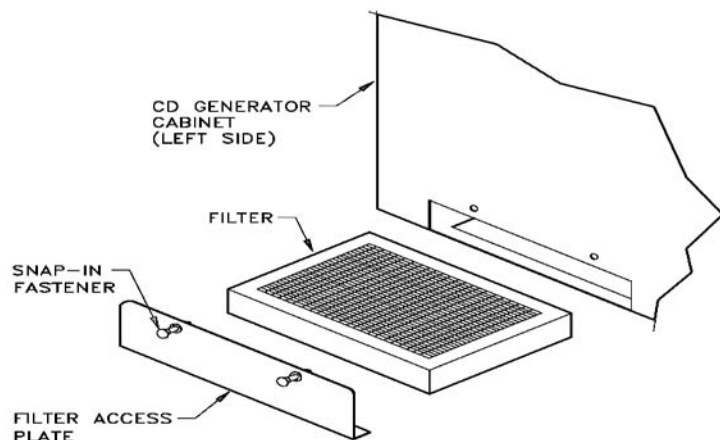

Figure 6: Filter Replacement
2. Remove and clean cabinet air filter (see Figure 6).